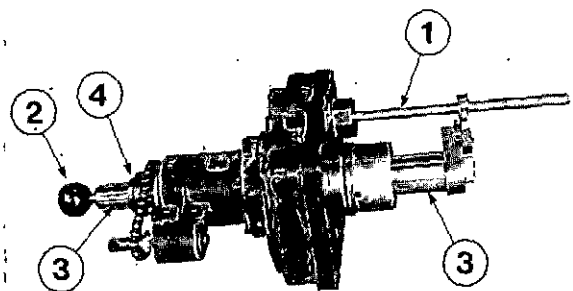

Fig. 1-26 (V10189). Part No. ST-1287 Boring Tool.
5. Install the gauge rod to the base plate of the boring tool, (1), Fig. 1-26.
- a. Loosen the drive engagement knob (2). Push the driveshaft (3) down until the